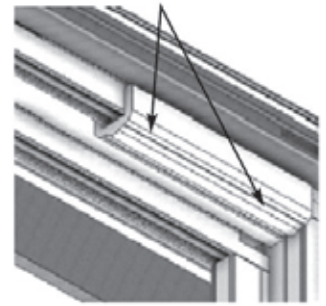

Figure 30
- 8. Install** the panel bumper (Item 21) using two screws (Item 46) through the center of the bumper at 1/4" from each end (Figure 30).